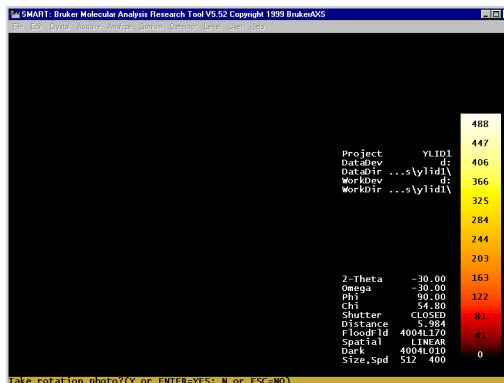

Figure 4-27. Prompt for a rotation photograph
- Click on the SMART program window, then press the ESC key to exit the optical alignment stage. SMART then prompts for a rotation photograph (Figure 4-27).